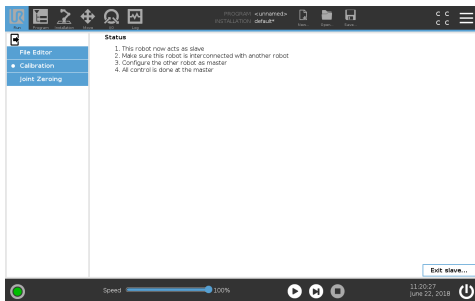
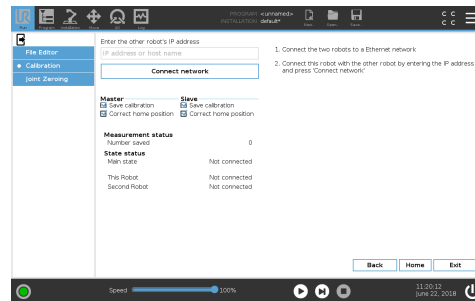

Figure 2.10: Slave Mode
Figure 2.11: Master Mode
- (16) When the Slave robot is ready and displays the screen in Figure 2.10, tap **Connect network** on the Master to establish the network connection. See Figure 2.11. The screens that follow are described in Section 2.7.